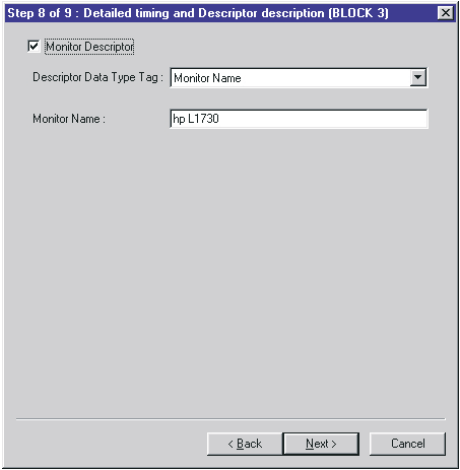

Fig.25
7. Click Next , bring up Fig. 25